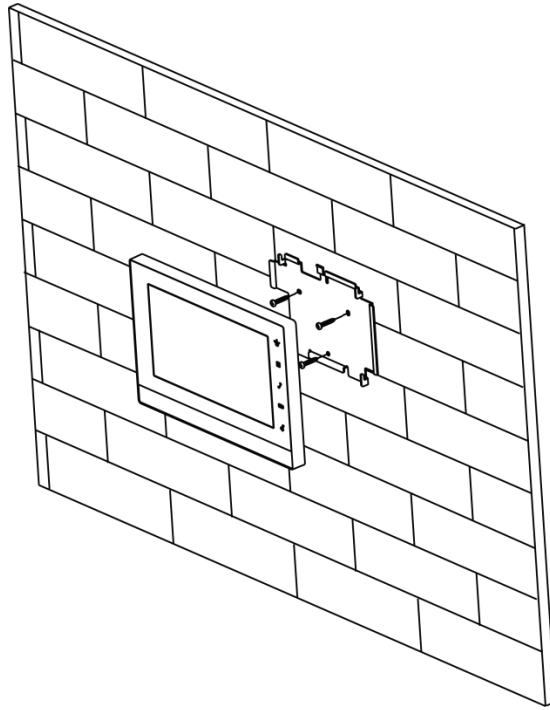

Figure 2- 1
Step 2. Fix device on installation bracket and buckle it. See Figure 2- 1.